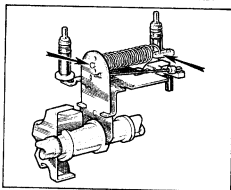

Fig.27 - Governor spring location holes
- Fit the idling spring and guide to hole No. 2 in the governor arm (see Fig. 27) and connect the governor spring to the guide.
- Connect the free end of the governor spring to hole No. 2 in the throttle shaft link (see Fig. 27) and fit it